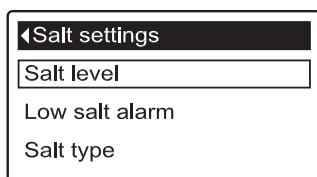

FIG. 25
3. Press the SELECT (O) button to display the Salt settings menu (See Figure 25).
7. Press the SELECT (O) button. The display will go back to the Salt settings menu (Figure 25).